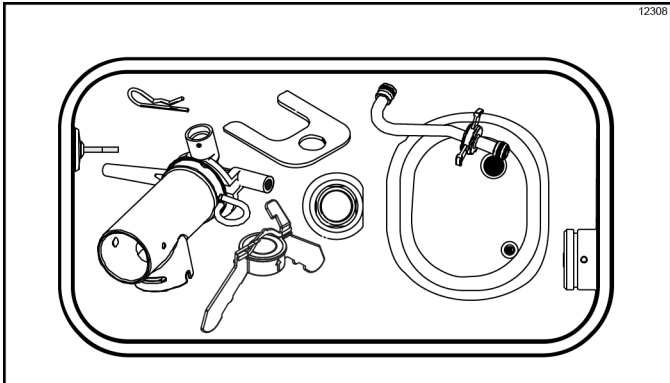

Figure 6-39
- 12. Lay the pump assembly, pump clip, cotter pin, and agitator in the bottom of the mix hopper for sanitizing. (See Figure 6-39.)